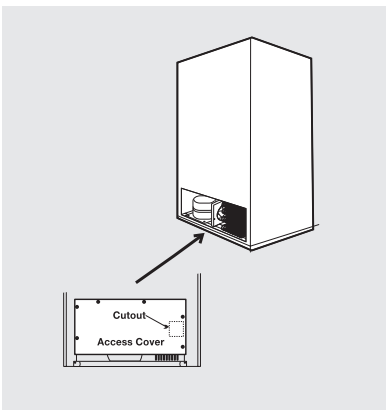

Figure 2
6. Remove the screws securing the access cover to the cabinet (interior condensers only - see Figure 2).